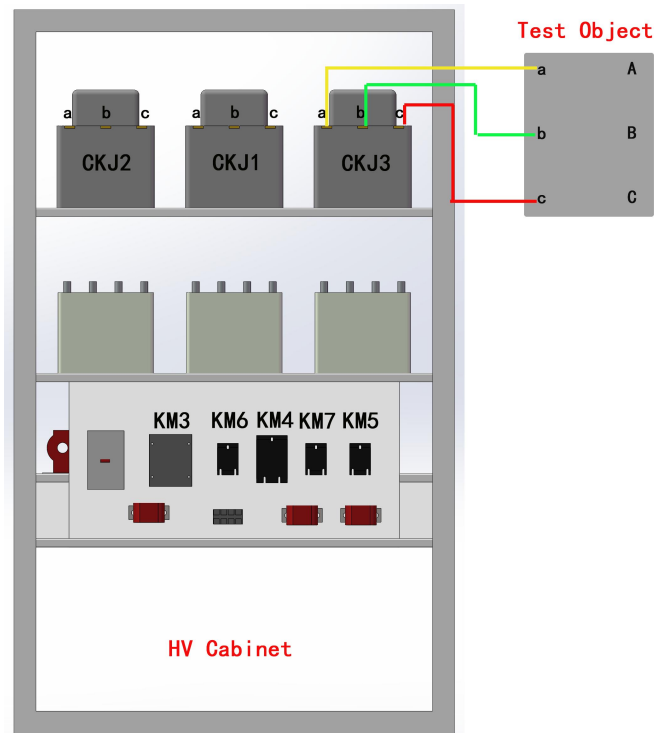

Figure 1 Connection between the high voltage cabinet and the test object
(1) Wiring: Make sure that the wiring is completed in strict accordance with the wiring instructions, the high voltage cabinet and the test object are connected according to the following figure 1, pay attention to the phase sequence must not be wrong.